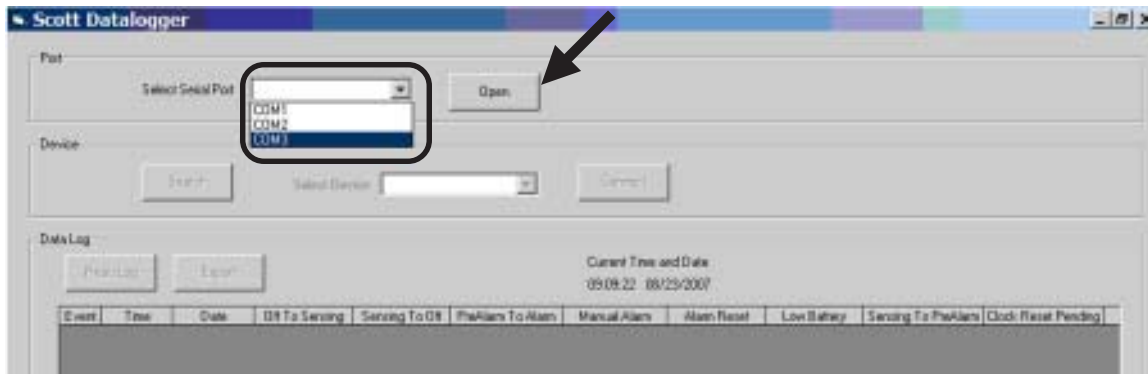

FIGURE 7
3. Under Port, place your cursor on the pull-down arrow in the box next to "Select Serial Port." Select the COM Port that was set in Installation. See FIGURE 7. Click "OPEN."